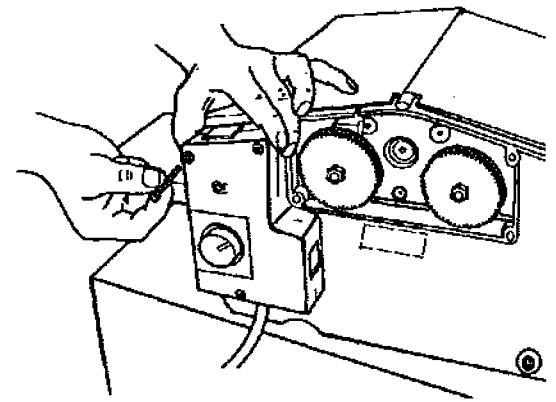

Fig. 20
26. Hold the control box (53) in position and attach it to the planer with three machine screws (52), as shown in Fig. 20.